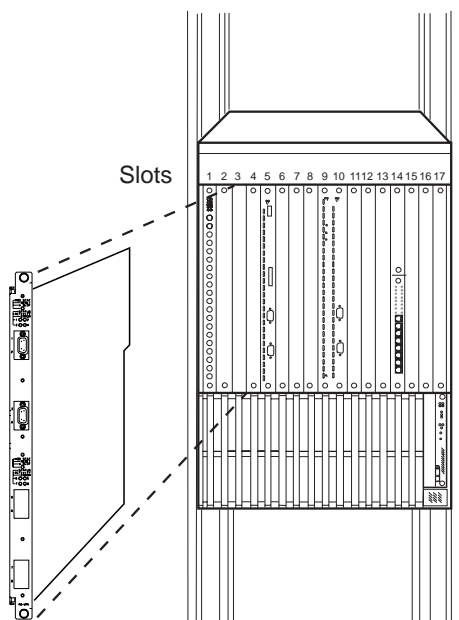
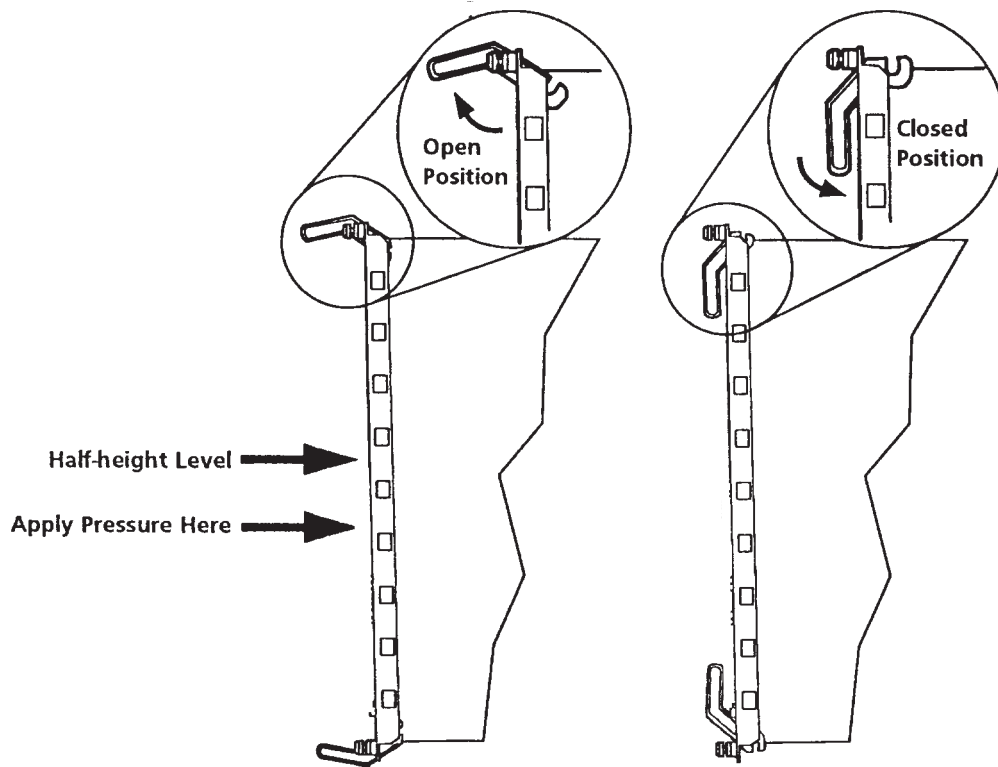

Figure 18. Inserting the Module in an 8260 Hub
Figure 19. 8260 Module Ejectors
- 3** Insert the A8-WAN module into the slot as shown in Figure 18, matching the top and bottom board guides as you slide the module cleanly into place (by pressing evenly on the top and bottom of the faceplate). Do not attempt to push the module all the way into the hub until you have verified that the top and bottom module ejectors are OPEN (see Figure 19 on page 35.)